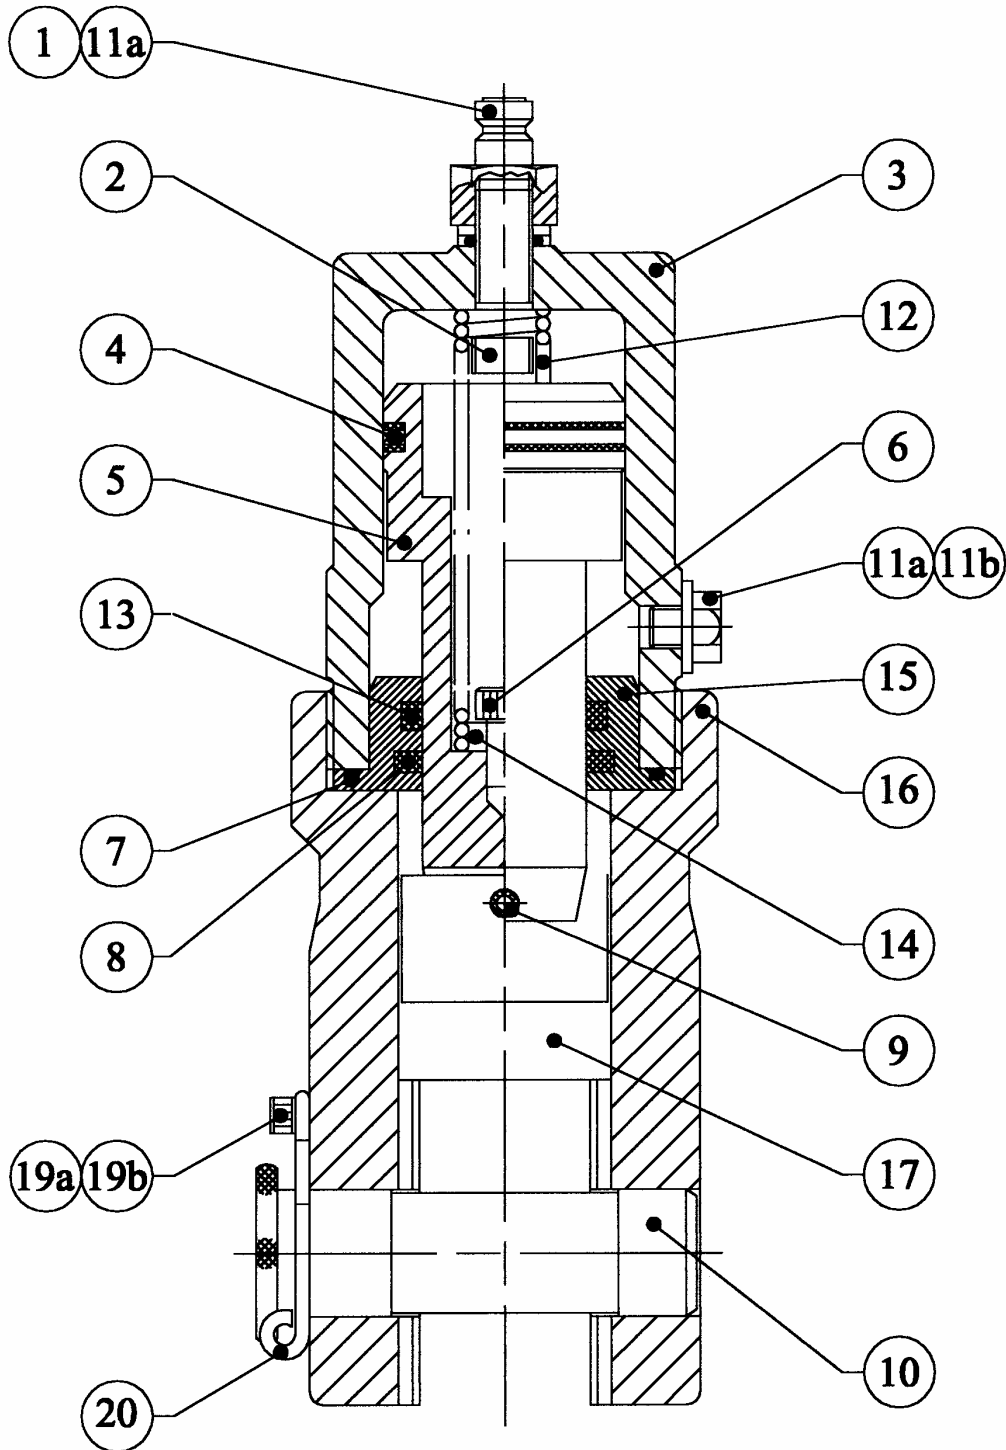

FIG. 2
## Blade renewal: (Numbers in brackets refer to Tables 2&3 and Figures 2&3)
**Cutter Disassembly:** (Numbers in brackets refer to Tables 2&3 and Figures 2&3)
**Cutter Re-Assembly:** Single Acting WC/WCO Type (Numbers in brackets refer to Table 2 & Figure 2)